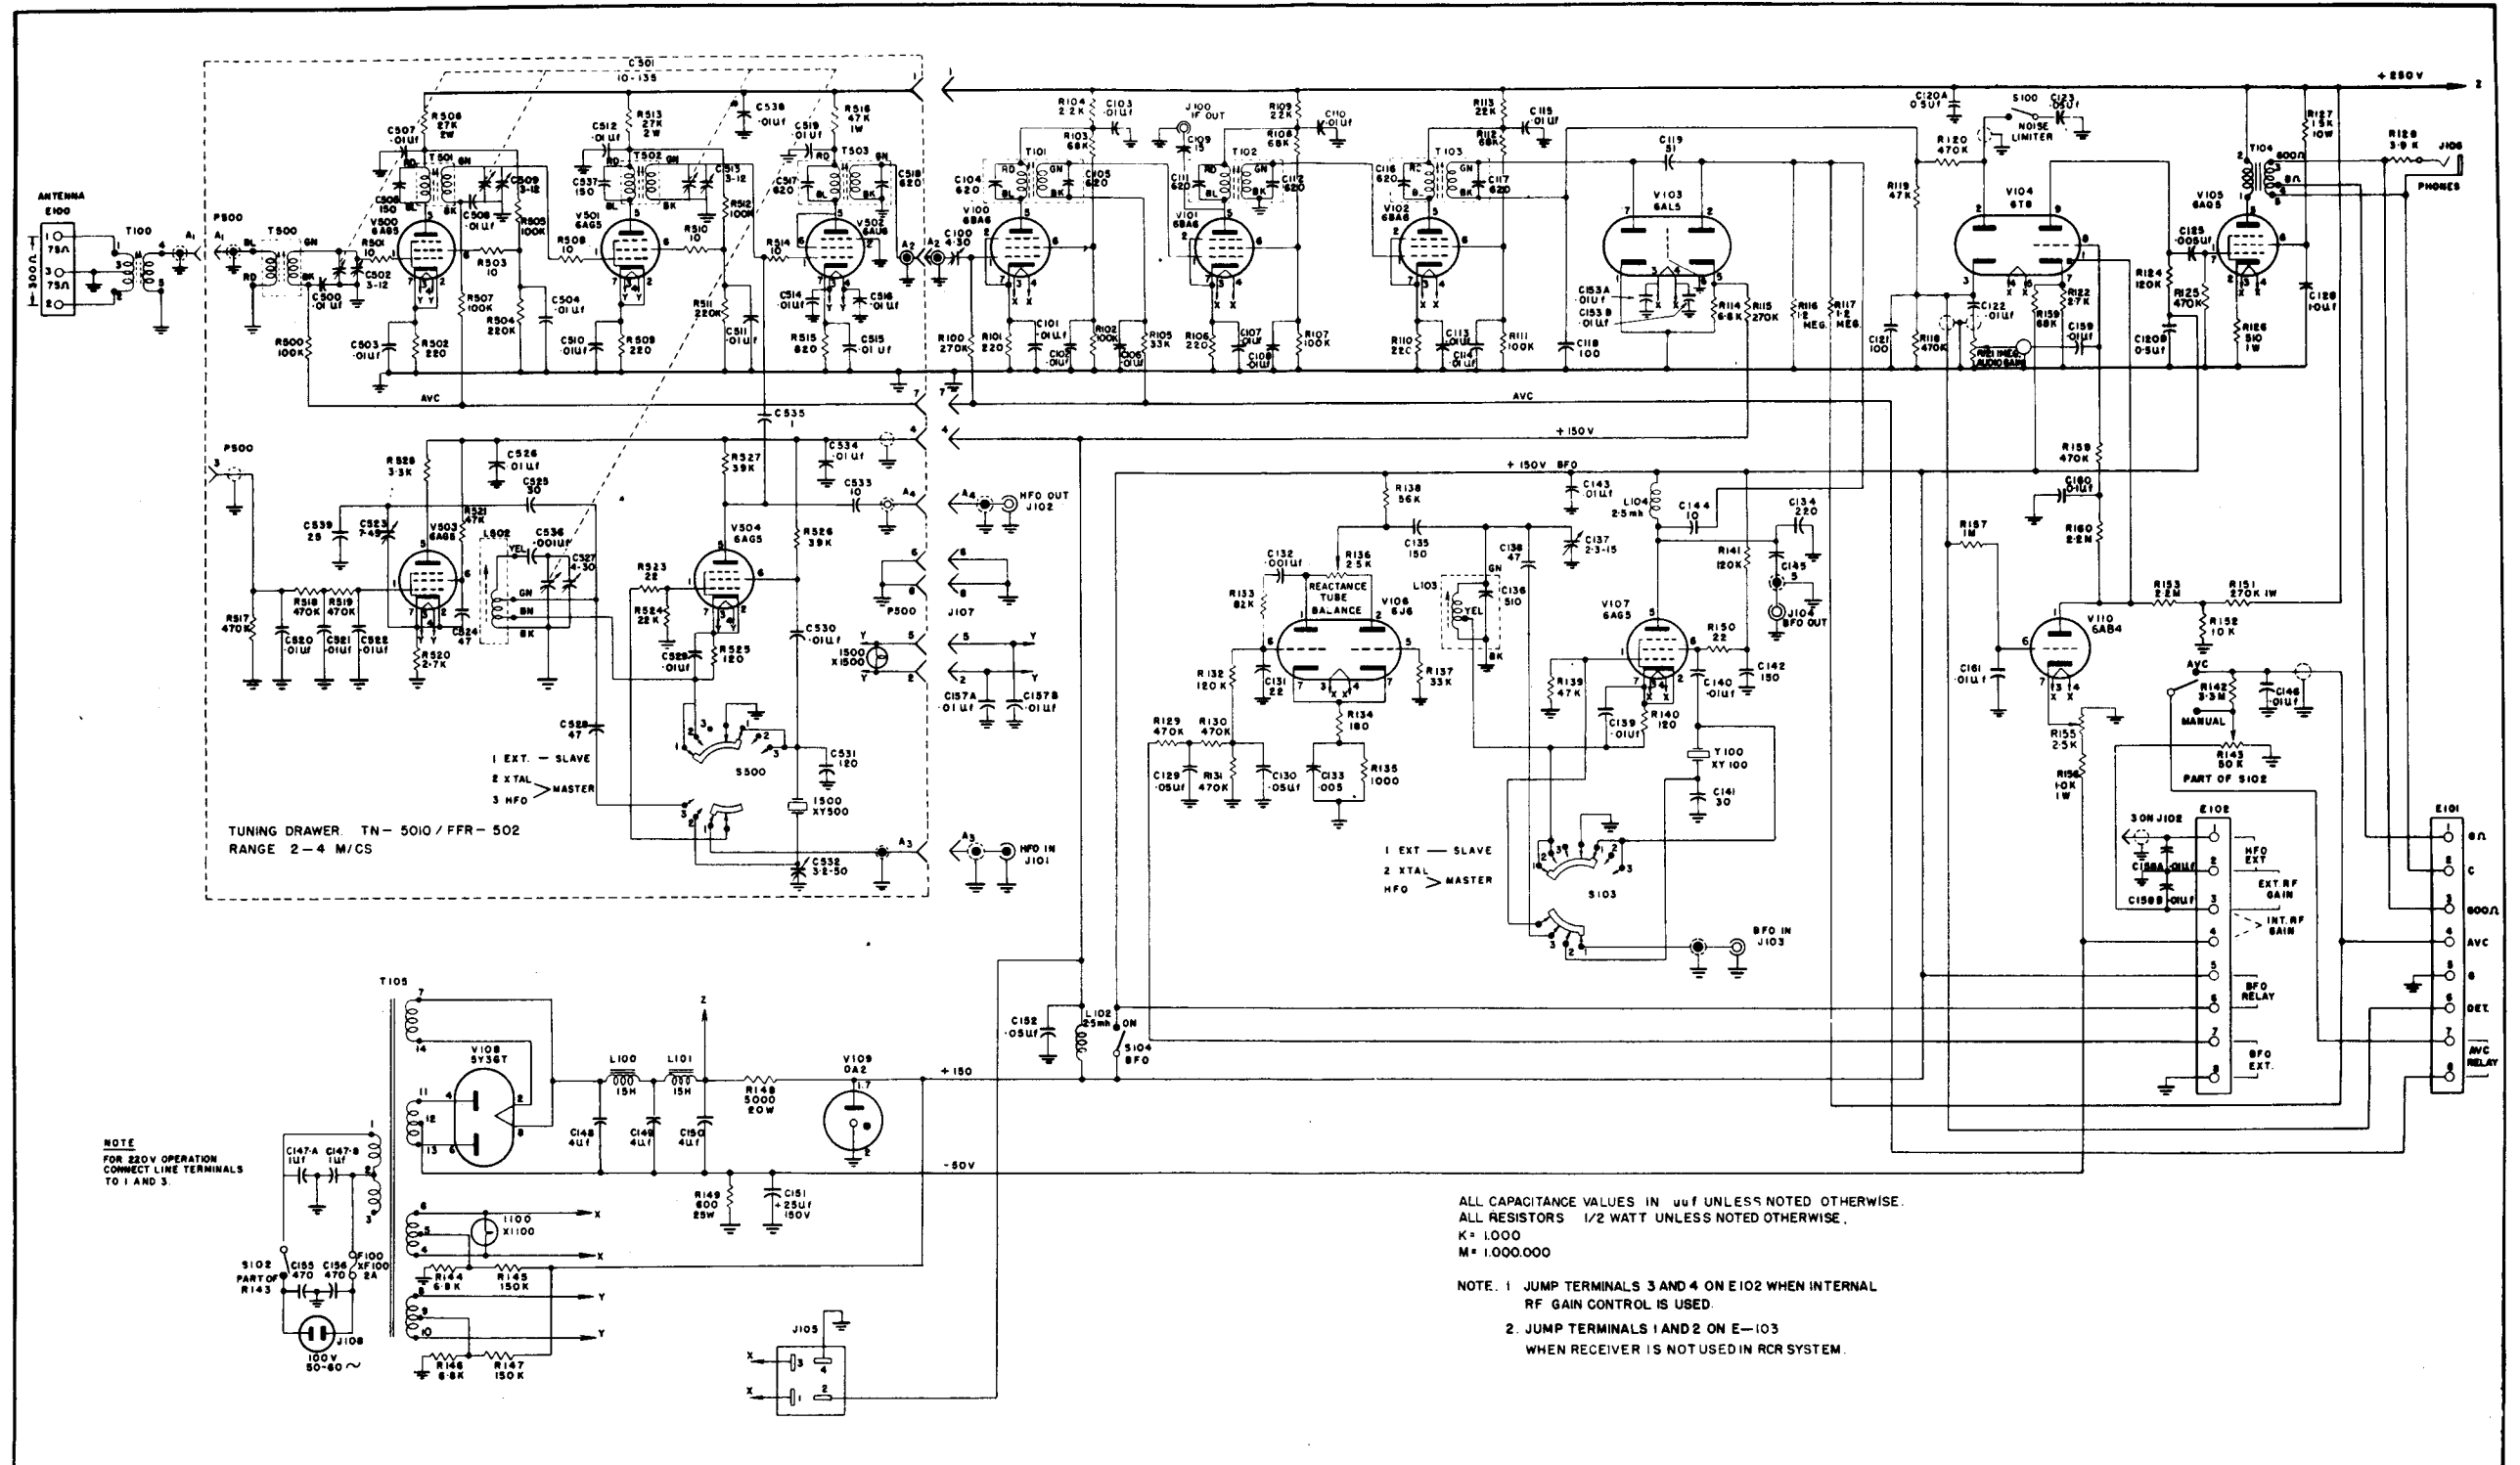

Figure 1 Schematic Diagram (with Squelch), R-5007/FRR-502 with TN-5010/FRR-502
3. Reference should be made to figure 1 for schematic diagram. The Squelch control tube V110 introduced by this modification is controlled by the rectified voltage appearing across the second detector load resistance R118. This negative voltage is filtered by R157, C161 to remove the audio frequency components of the signal, and applied then to the grid of V110, a 6AB4 tube. With applied signal of amplitude less than threshold, V110 is in a conducting condition as the cathode voltage is negative with respect to the grid, and the plate current causes a voltage drop across the plate load resistor R153, this causes the grid of V104 to fall below its cathode voltage sufficiently to cut the tube off.